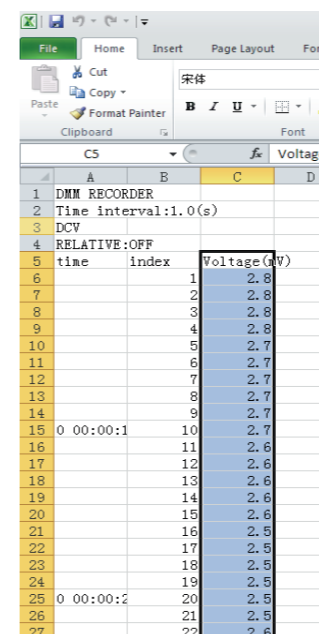

Figure 6-4
2. Select the data that you want to chart (see Figure 6-4).